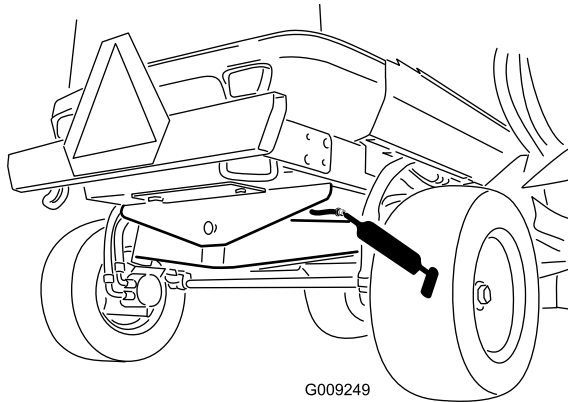

Figure 51
- Rear axle pivot bushing (1) (Figure 51)